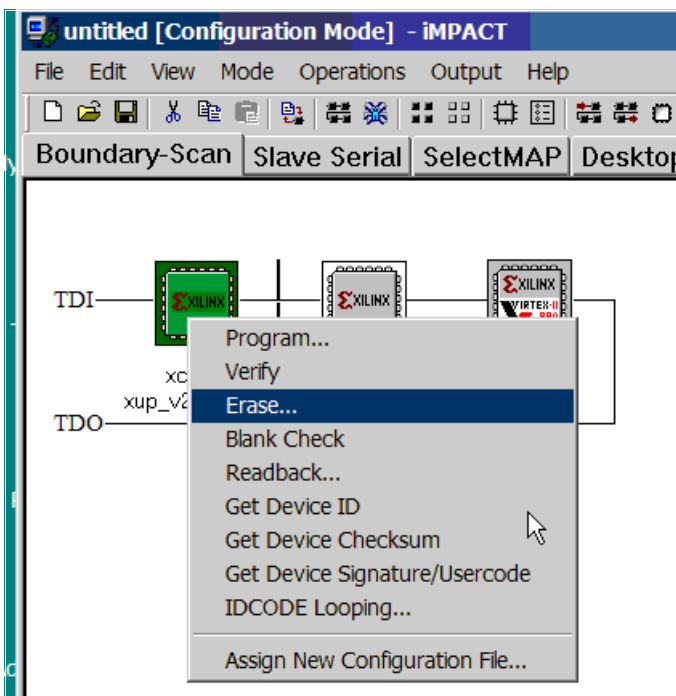

Figure C-5: Erasing the Existing PROM Contents
9. Right mouse click on the icon for the XCF32P PROM and select Erase from the drop down menu as shown in Figure C-5. When the erase options screen appears, select All Revisions and then click OK.